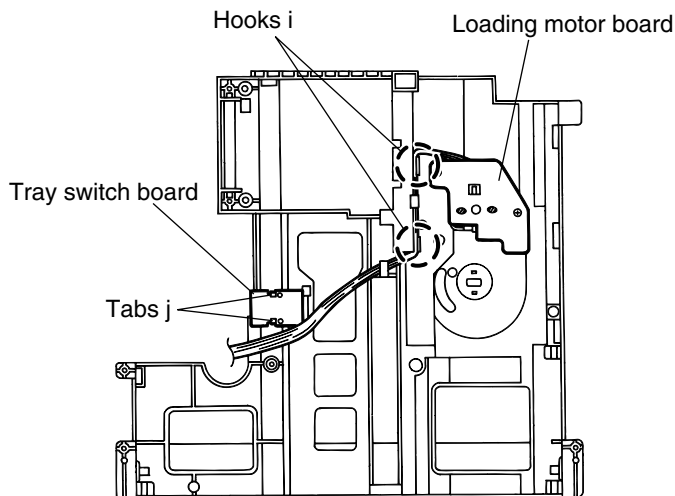

Fig.26
**CAUTION:** When reattaching the loading motor board, settle the wires on the two hooks **i** on the loading base assembly and draw the other end to the left as shown in Fig.26.
## ■ Removing the tray switch board (See Fig.26)